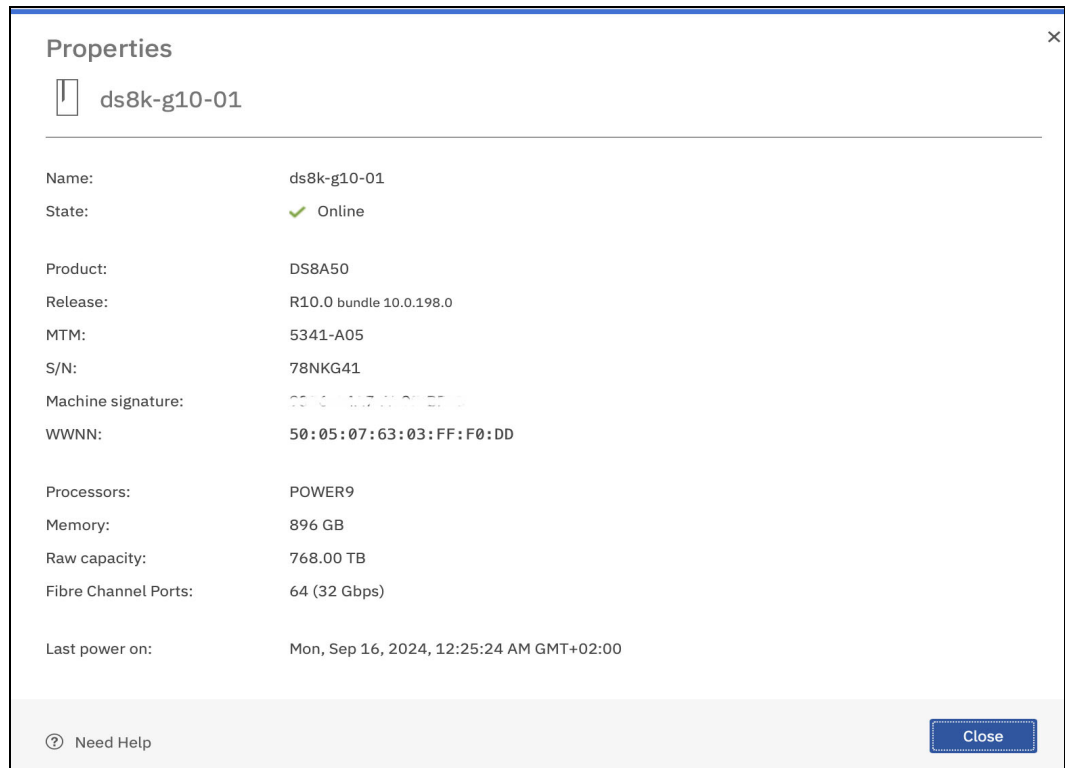

Figure 5-6 System properties: WWNN
3. Select **Properties** to obtain the WWNN value, as shown in Figure 5-6.